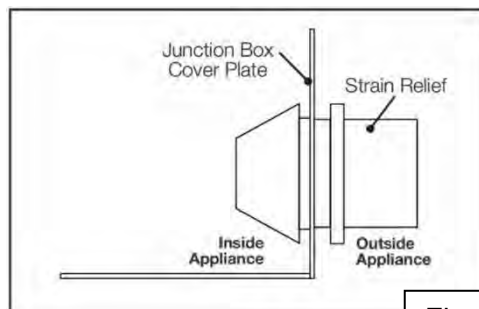

Fig. 3-2
- If the strain relief is not already installed, install it into the junction box cover plate (Fig. 3-2). Slide the power supply wire through the strain relief.